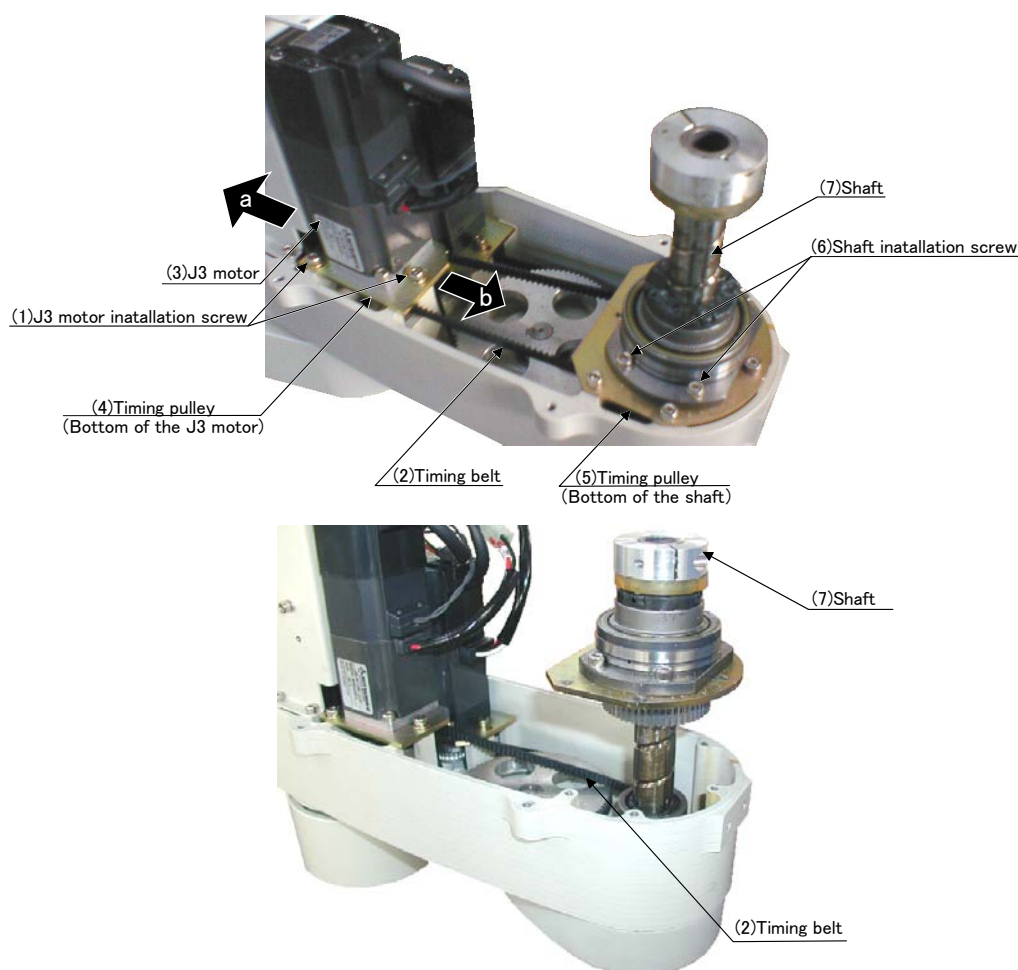
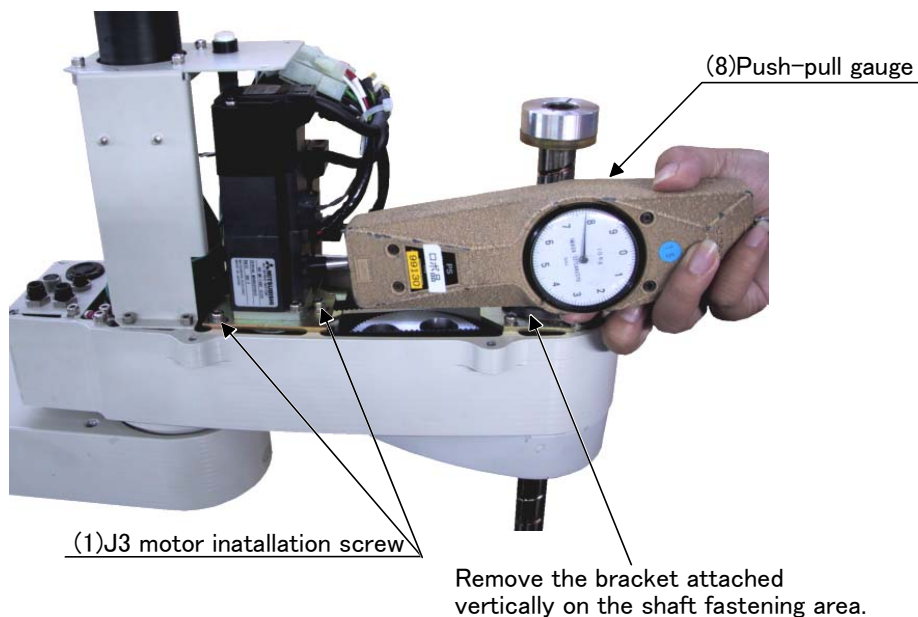

Fig.5-4 : Inspection, maintenance and replacement of J3-axis timing belt
Fig.5-5 : J3 axis timing belt tension
- 1) Fig. 5-4 shows the methods for inspecting, adjusting and replacing the timing belt.
- 4) Be careful not to let the timing pulley (4) on the J3 axis motor move while the belt is being changed.
- 5) If the pulley (4) and (5) position relation deviates, the position could deviate.
- 6) Loosen the J3 motor installation screws (1) to lift the J3 motor (3) upward and remove the timing belt (2) from the timing pulley (4).
- 7) Loosen the shaft installation screws (6) to lift the shaft upward and remove the timing belt (2) by lifting it from the bottom spline section. (Refer to Fig. 5-4.)
- 8) Install a new timing belt on the timing pulleys (4) and (5) in the reverse order of the procedure described in steps 6) and 7) above.
- 9) With the J3 axis touching the upper mechanical stopper, hook the timing belt (2) around the timing pulleys (4) and (5).
For more accurate tension adjustment, pull out the idler (4) with a force of 65N for RH-6SQH or 90N for RH-12SQH/18SQH/20SQH using the push-pull gauge, and then tighten the idler installation screws (3) as shown in Fig. 5-5. The use of the method as shown in Fig. 5-5 is recommended.